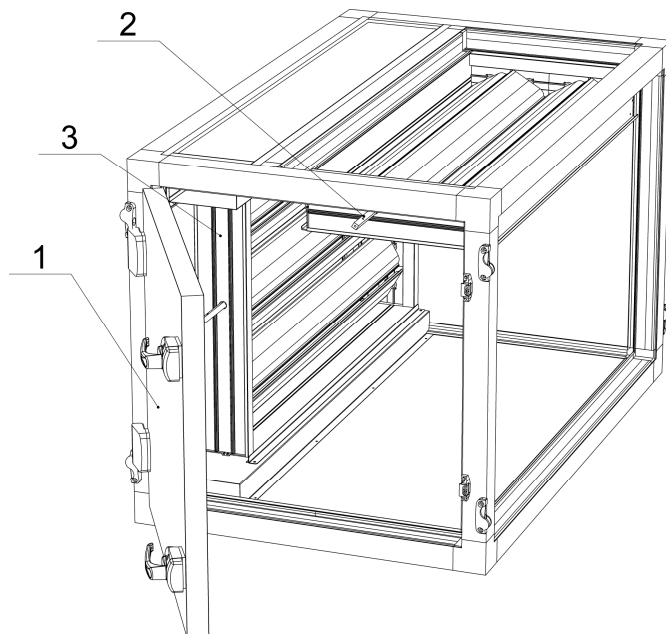

Figure 6.7.2 - One stage mixing section with two dampers inside.
2. One stage mixing section with two dampers inside (Figure 6.7.2).